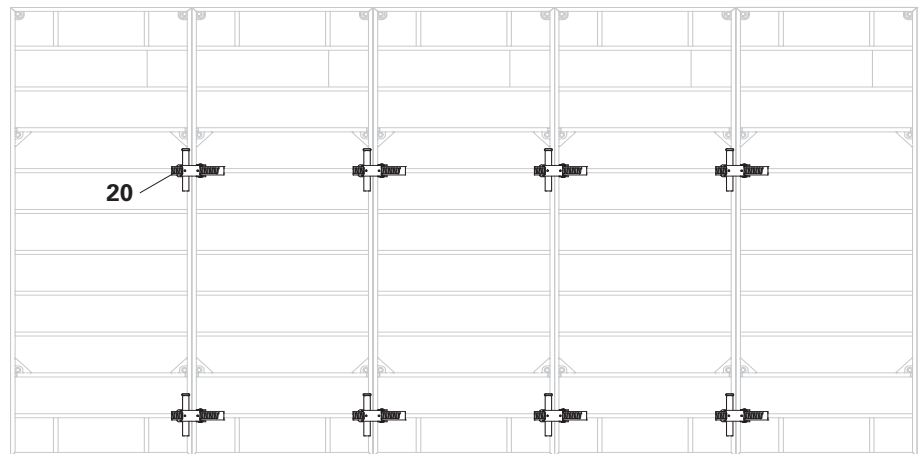

Fig. B2.01
2 x Pinces DRS (20). (Fig. B2.01)